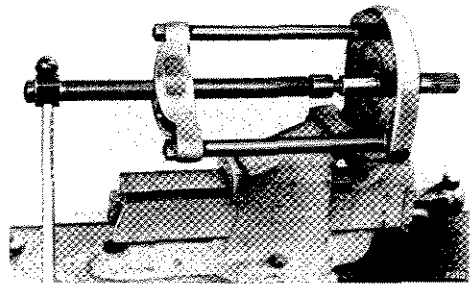
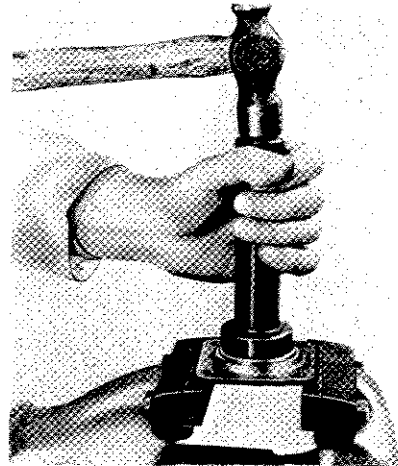

Fig. 59. Extracting the inner axle shaft bearing
Fig. 60. Removing the inner axle shaft seal
Remove the key (33), the bearing retainer (26) with the oil seal (27). Extract the bearing (57), see Fig. 59. Remove the oil seal (27) from the bearing retainer, see Fig. 60.